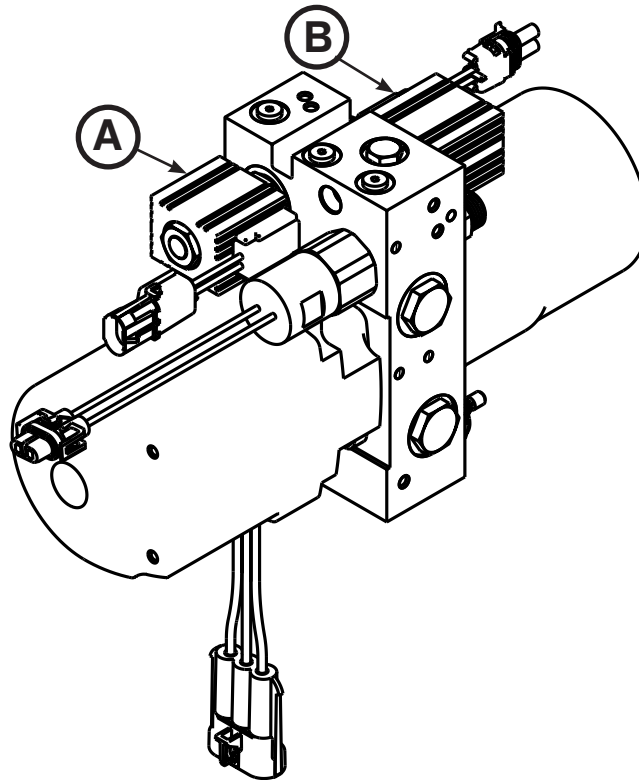

Figure 94
5. Using a 3/4" combination wrench, remove the nut that secures the solenoid to the A valve (A) or B valve (B) (Figure 94). Save the nut for reinstallation.